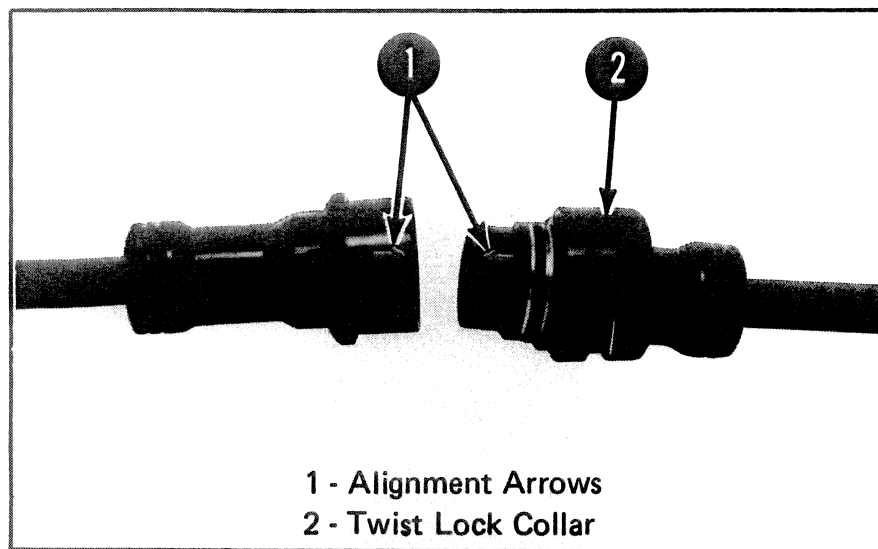

Figure 6. Harness Connection
2. Disconnect wiring harness socket and plug. (Figure 6)
4. Align arrows (Figure 6) and connect wiring harness socket and plug. Secure connection with twist lock collar.